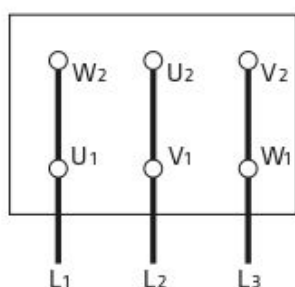

Figure 10a. Δ - connection
- The mains connection on the terminal box depends on the nominal power of the motor, the power supply and the type of connection. The necessary connection of the bridges in the terminal box is shown in the following (*Table 2 ve Figure 10a, 10b, 10c*).